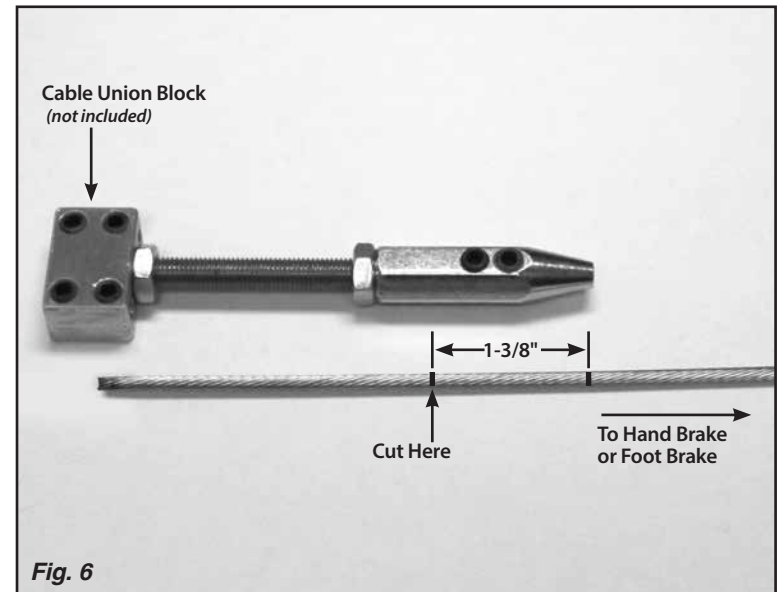

Fig. 6
Step 11: Measure 1-3/8" further towards the rear end of the inner wire and make a second mark. Cut the inner wire at the second mark, so that approximately 1-3/8" of the inner wire can be inserted into the single wire union assembly. **Fig. 6**